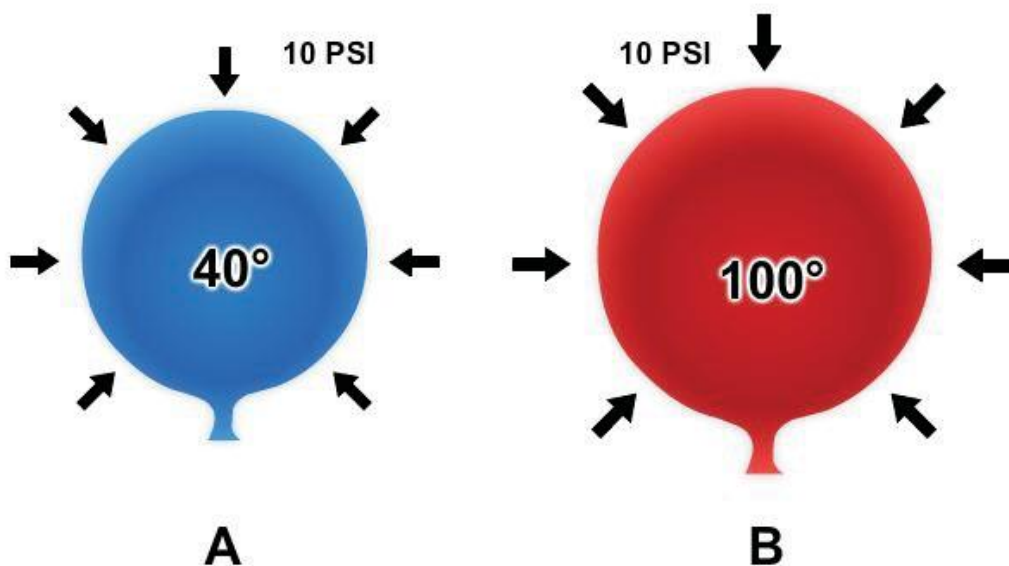

Figure 2-7 — Pressure differential in respect to temperature.
- When the pressure is held constant, an increase in the temperature of a gas causes a proportional increase in volume. A decrease in the temperature causes a proportional decrease in volume, as shown in *Figure 2-7*. Balloons A and B have an outside